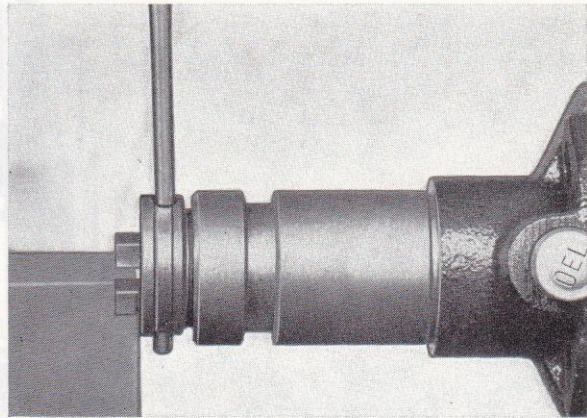

Fig. 107. Removing the driving collar
4. Remove the resilient ring and mark up how the driving collar is located in relation to the distributor shaft. Knock out the pin (Fig. 107) and lift off the driving collar and pull up the distributor shaft.